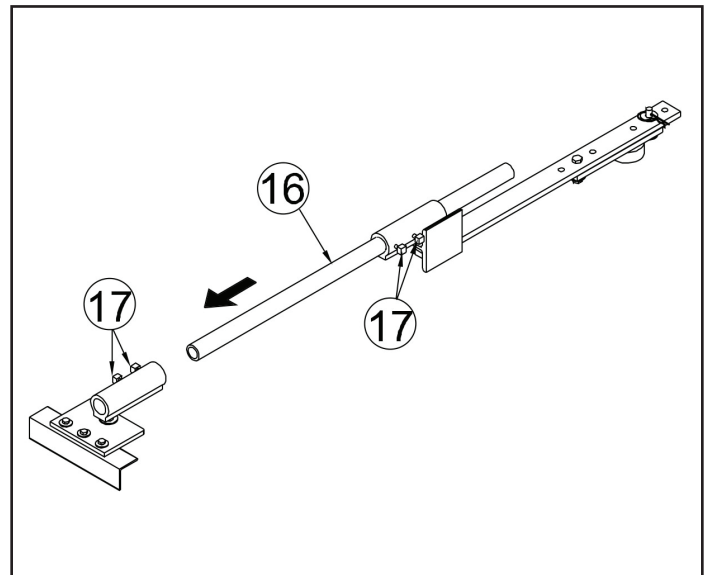

Figure 7. Pipe Link Installation
See Figure 7. Slide the pipe link (16) through the arm assembly as shown. Place the 5/16" square bolts in the gate clamps (17) and tighten carefully. **Do not overtighten!**